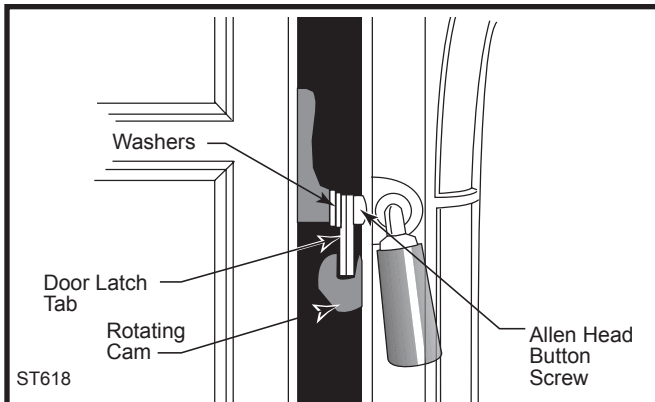

Fig. 34 The front door seal can be adjusted simply by adding or removing washers.
- Remove the Allen head button screw that attaches the door latch tab to the stove front. (Fig. 34)